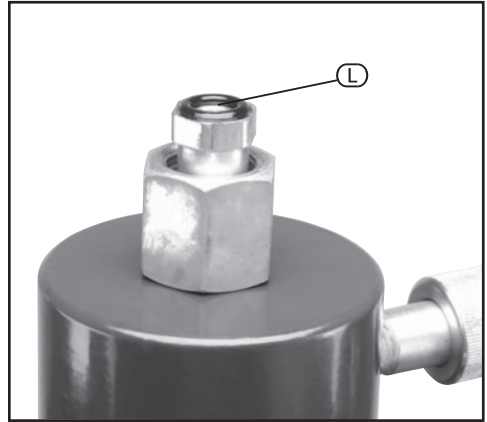

FIG.9
8.5 PRESSURE GAUGE AND HOSE ASSEMBLY - FIGS. 9 - 10